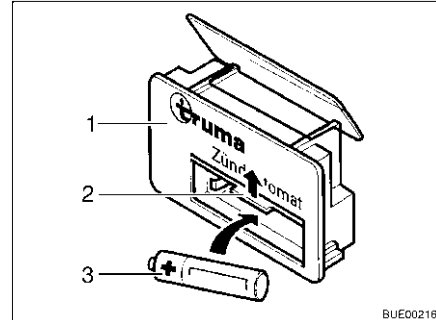

Fig. 147 Automatic ignition
- Push battery chamber cover (Fig. 147,2) on the automatic ignition (Fig. 147,1) upward.
- Insert a new battery (Fig. 147,3) of the same type, correctly aligned (+/-), into the battery chamber of the automatic ignition. Only use temperature resistant (+70 °C) and leak-proof Mignon batteries.